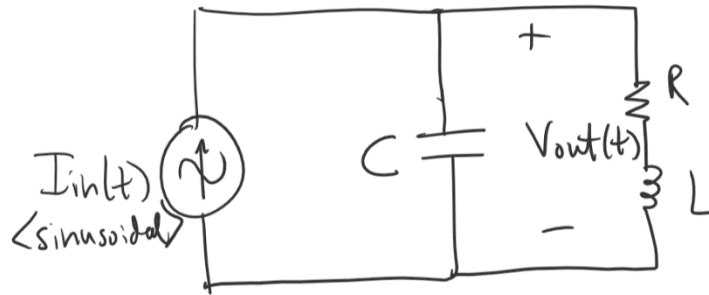

Figure 1. Circuit for Problem 1.
1. Consider the circuit shown in Figure 1 below.